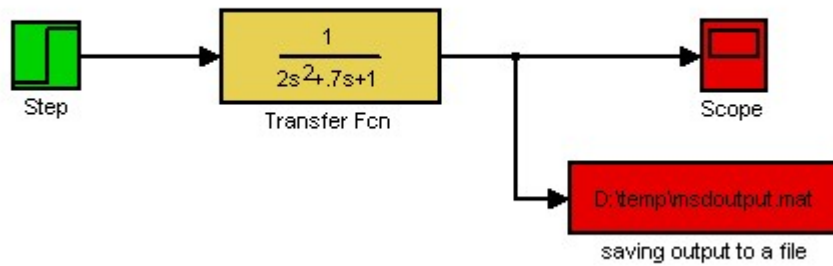

Figure E3-1
STEP 2 Arrange the blocks as shown in Figure E3-1 below.